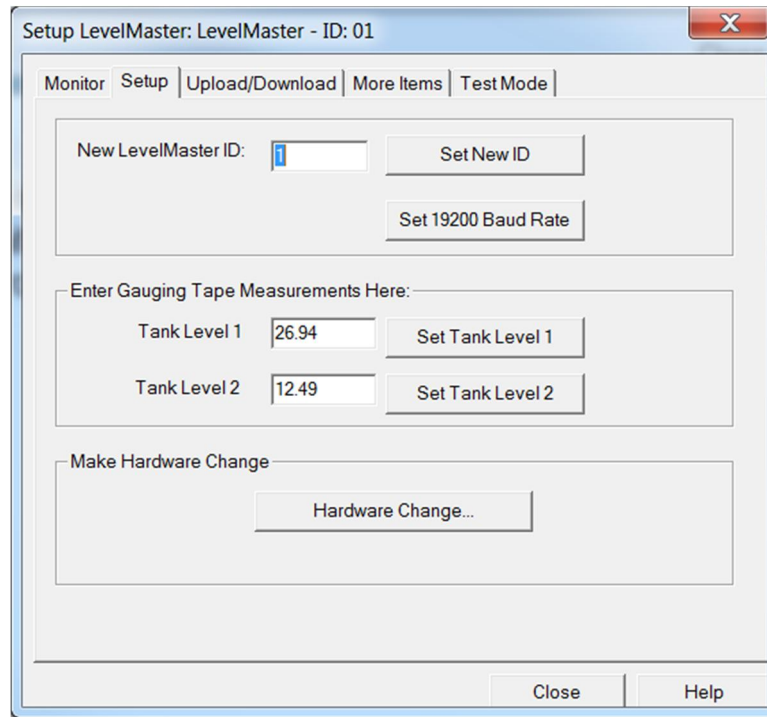

Figure 64: LevelMaster Setup tab for ID and Baud rate configuration
8. Click the **Setup** tab (Figure 64).